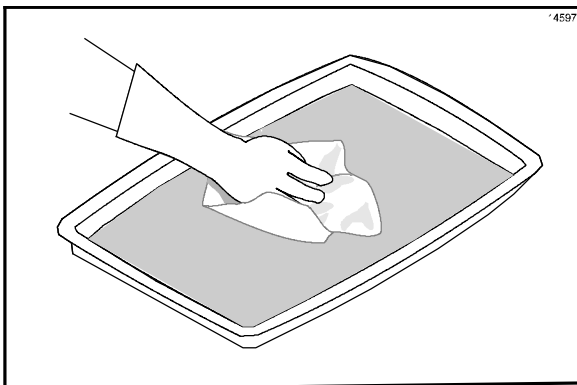

Figure 43
10. Dip a clean, sanitizer-soaked grill cloth into the grill cleaner. Do not saturate the cloth. (See Figure 43.)